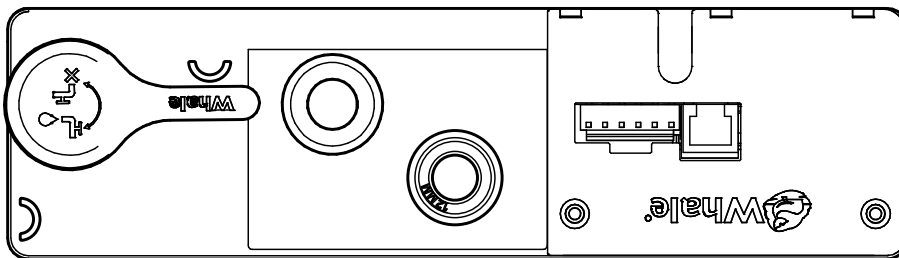

Figure 1. Drain Valve Operation - Closed Position
**Step One:** Upon initial operation or to refill after the system has been drained, check that the drain valve is closed, (see Fig. 1) then fill the system with clean fresh water.